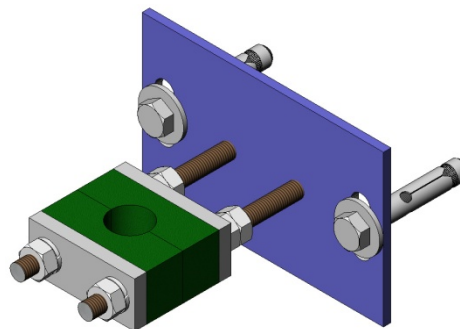

fig. 8
- A stem support-guide is recommended (fig. 8) every 1.5 m.